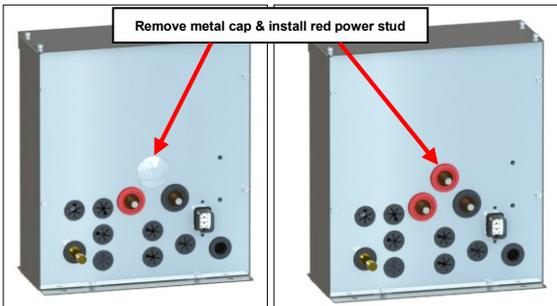

Figure 5
3. Remove the metal cap from the back panel. (**Fig.5**)